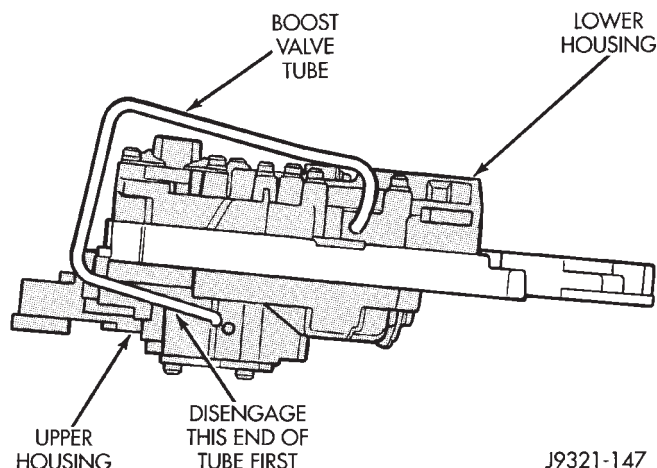

Fig. 56 Boost Valve Tube
(27) Remove boost valve connecting tube (Fig. 56). Disengage tube from upper housing port first. Then rock opposite end of tube back and forth to work it out of lower housing.